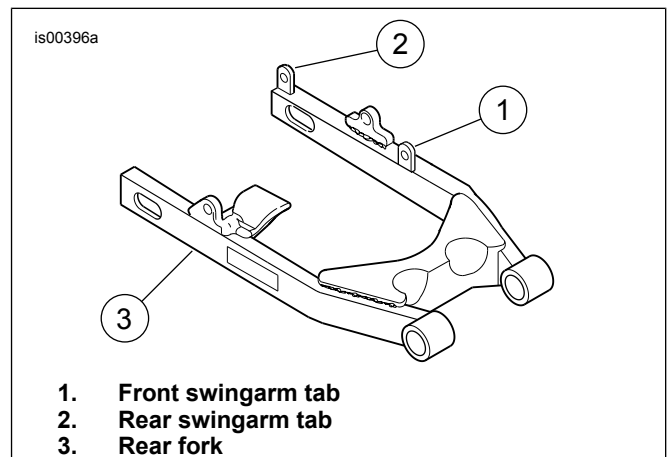
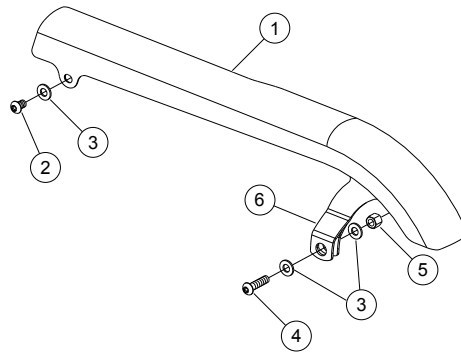

Figure 1. Front and Rear Swingarm Tabs
Figure 2. Service Parts for Chrome Belt Guards and Hardware Kit
See Figure 2 and Table 2.
See Figure 2. Verify rear swingarm tab is in between the belt guard rear mounting bracket (A) tabs.
4. See Figure 1. Place chrome belt guard (Item 1, Figure 2) over front and rear tabs (1, 2) on rear fork (3).
5. See Figure 2. Loosely install front button head Torx screw (2) and washer (3) on chrome belt guard (1).
6. Loosely install rear button head Torx screw (4), two washers (3), and nut (5) on chrome belt guard mounting bracket (A).
1. See Figure 2. Remove and discard existing front 5/16-18 X 1 in. button head Torx screw and washer from belt guard. Install button head Torx screw (2) and washer (3) on chrome belt guard (1). Tighten screws to 13.6–20.3 N·m (120–160 in-lbs).
2. Remove and discard existing 5/16-18 X 1-1/4 in. button-head Torx screw, two washers, and nut from belt guard. Install button head Torx screw (4), two washers (3), and nut (5) on chrome belt guard mounting bracket (A). Tighten screws to 13.6–20.3 N·m (120–160 in-lbs).